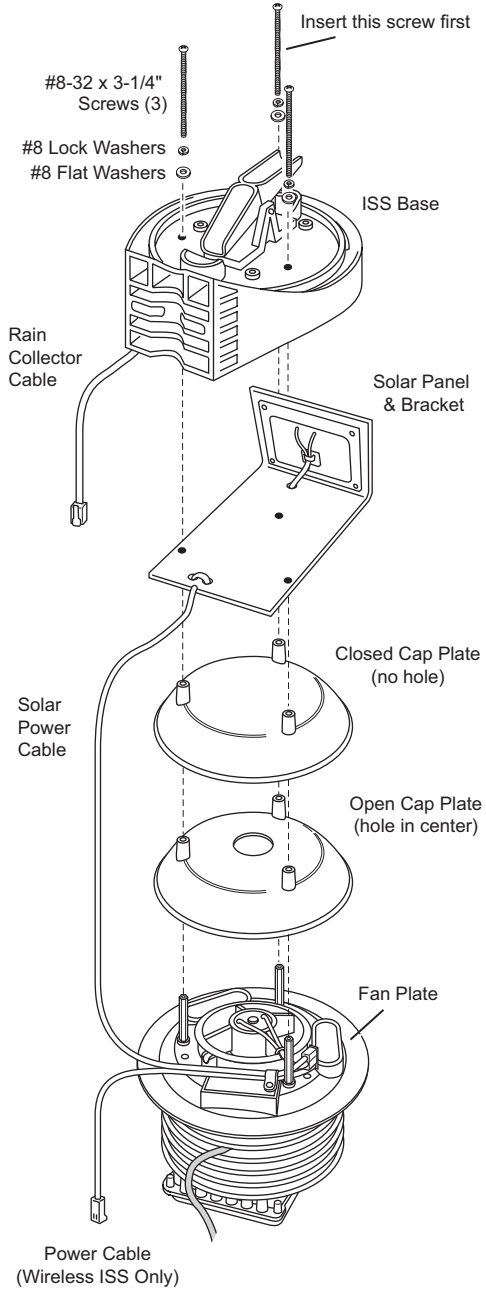

Figure 18. Upper Shield Assembly
1. Place the open cap plate (has hole in center) on top of the fan plate, then place the closed cap plate (no hole). See Figure 18. ‘Upper Shield Assembly’ on page 12.